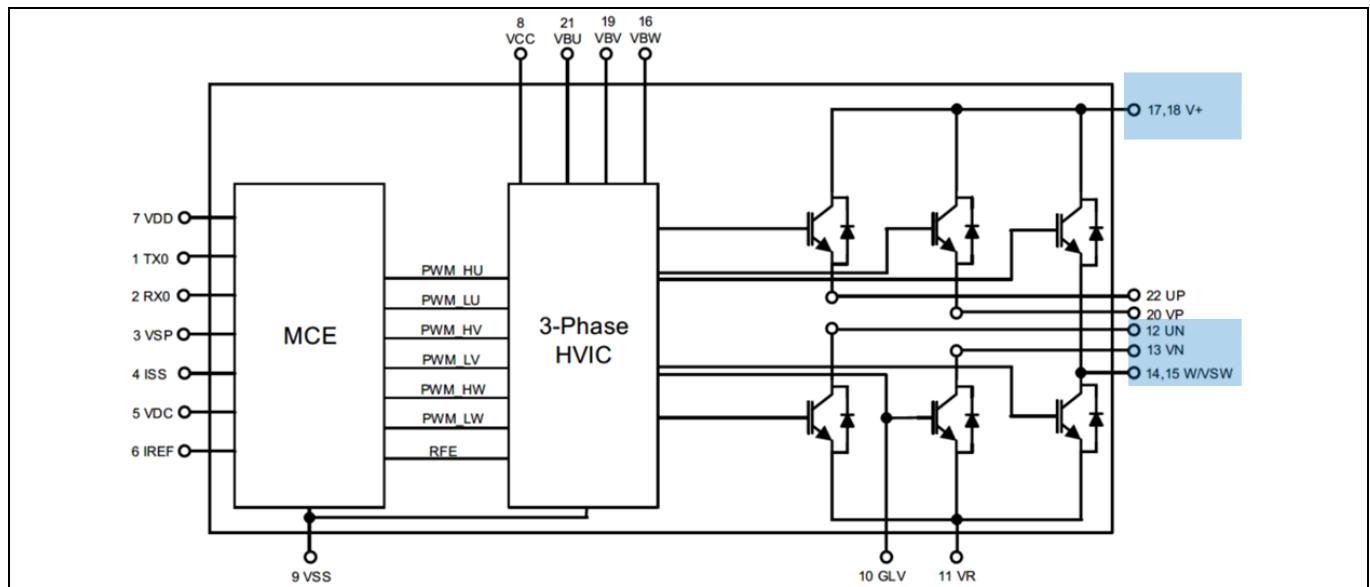
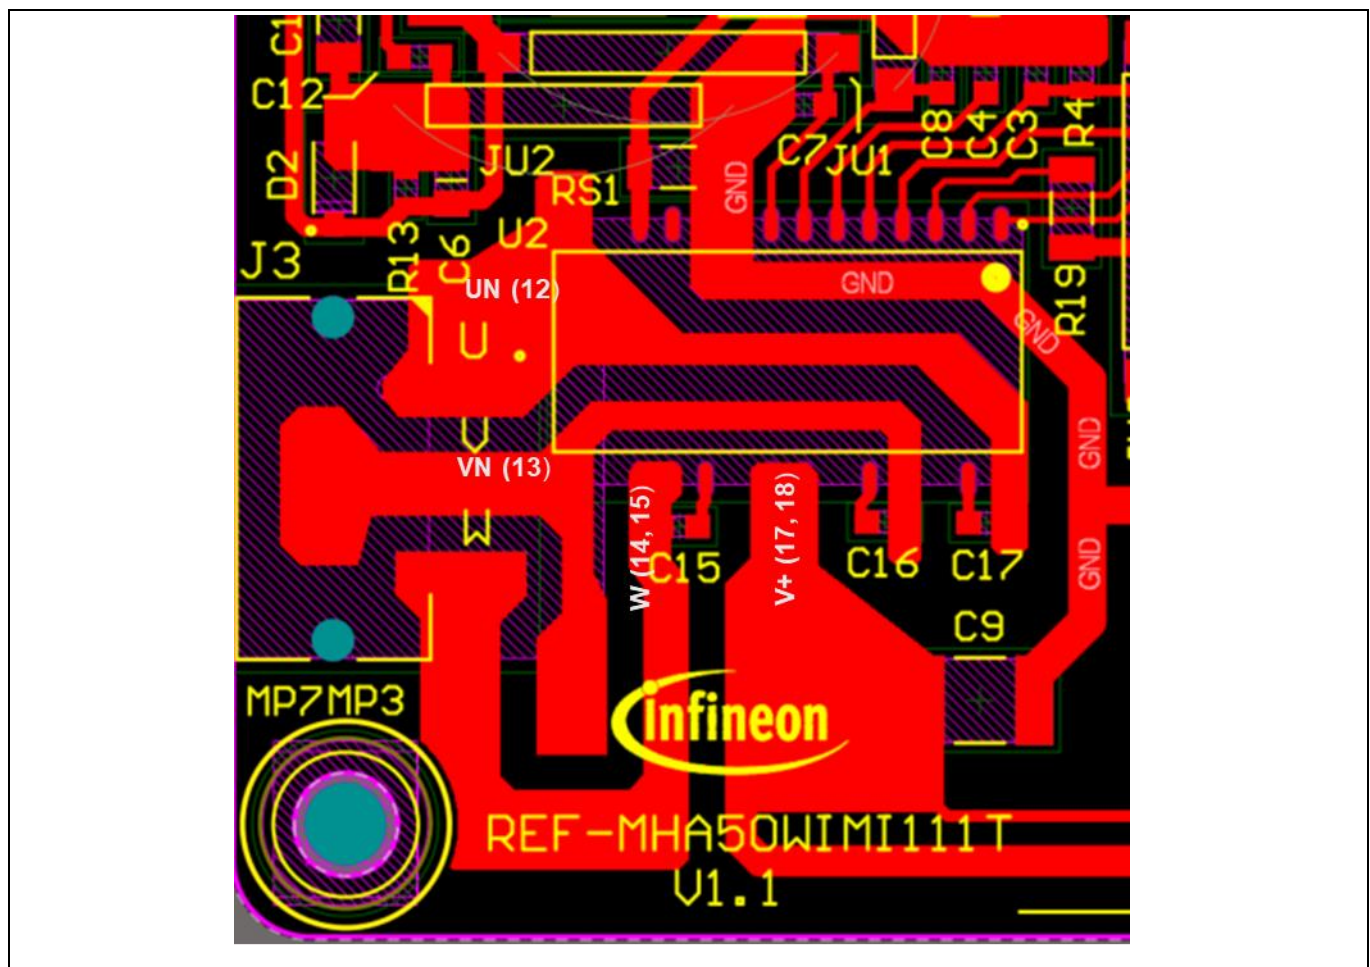

Figure 16 Critical pins for thermal PCB design
Figure 17 Reference board PCB design regarding critical pins
IMI111T relies on the leads to transfer thermal dissipation from the power devices to the PCB. There are several critical pins that need attention to achieve improved thermal performance of the module. Figure 16 shows the pins critical for thermal dissipation. These include V+ (17, 18), UN (12), VN (13), and W (14, 15). Copper areas connected to the critical pins have to be optimized as much as possible to provide more thermal transfer capability, and this is especially important for single layer PCB design. In this reference design, the motor connector J3 is placed very close to the critical pins UN and VN, and it helps acting like an external heatsink to extract the heat more effectively. Figure 17 shows the PCB design with respect to the critical pins.